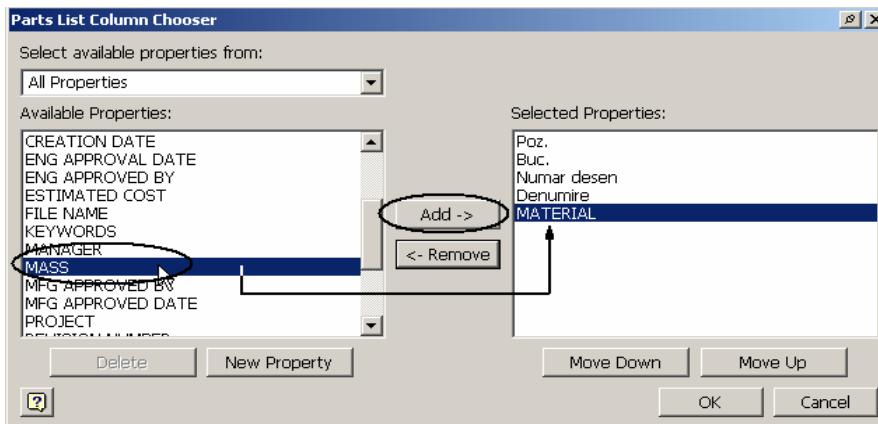

Figura 5.9.9.
- punctare buton **Column Choser**; apare fereastra **Parts List Column Choser**, figura 5.9.9;